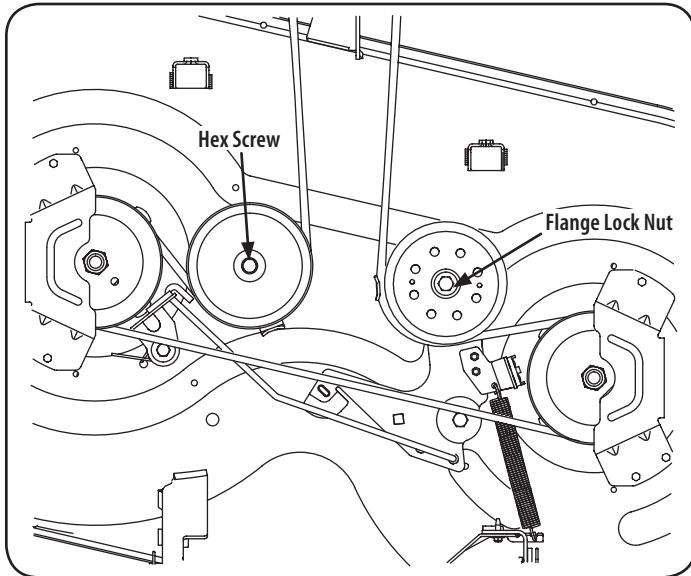
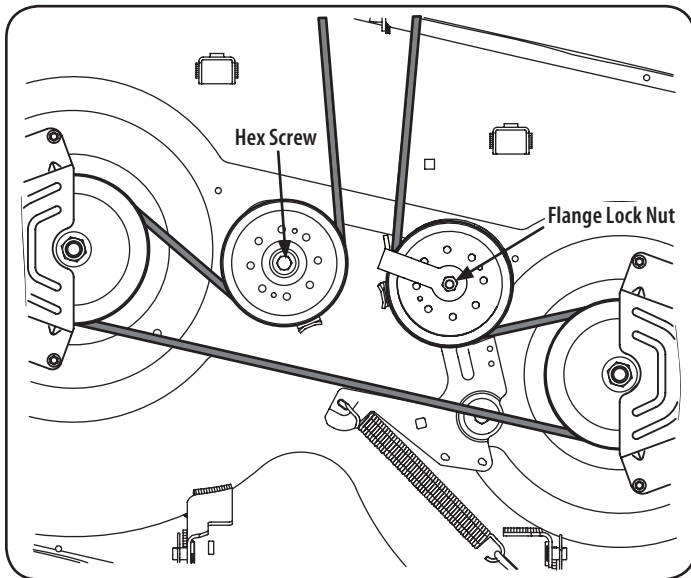
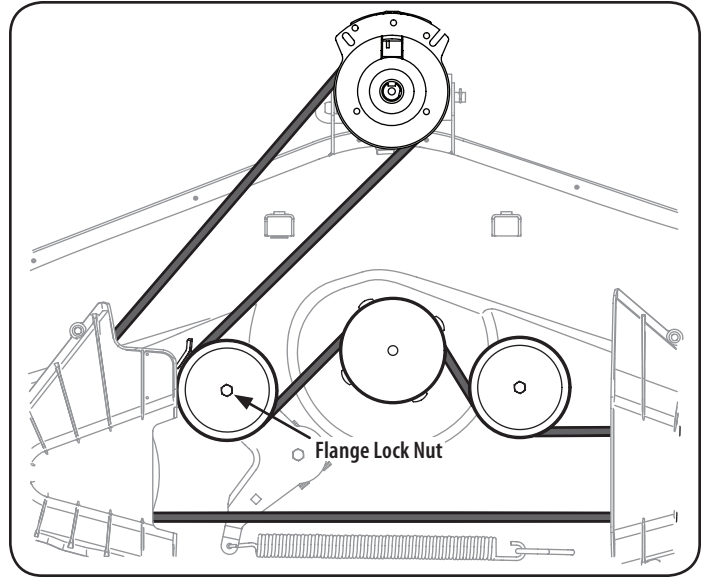

Figure 33
Figure 34
Figure 35
- Loosen, but do not remove the flange lock nut on the left idler pulley for 50" and 54" Decks and the right idler pulley for 42" and 46" Decks. See Figure 33 for 42" Decks, Figure 34 for 46" Decks and Figure 35 for 50" and 54" Decks.